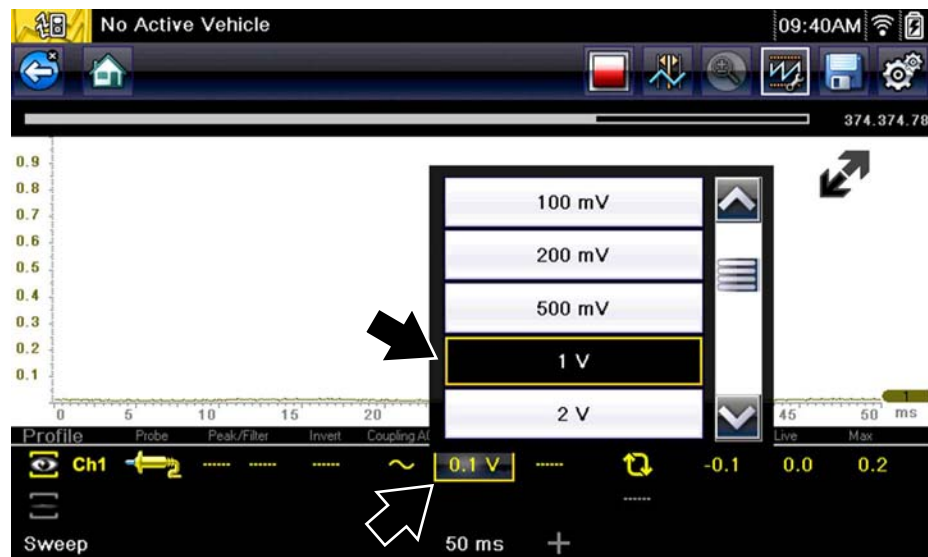

Figure 5-32
**Example (Figure 5-32):** If the vertical scale is set to 1V, the value displayed is 0.1V.